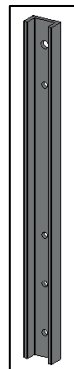

FIG. 4 - MOUNTING
2. MOUNTING STRAP (shown in FIG. 4)